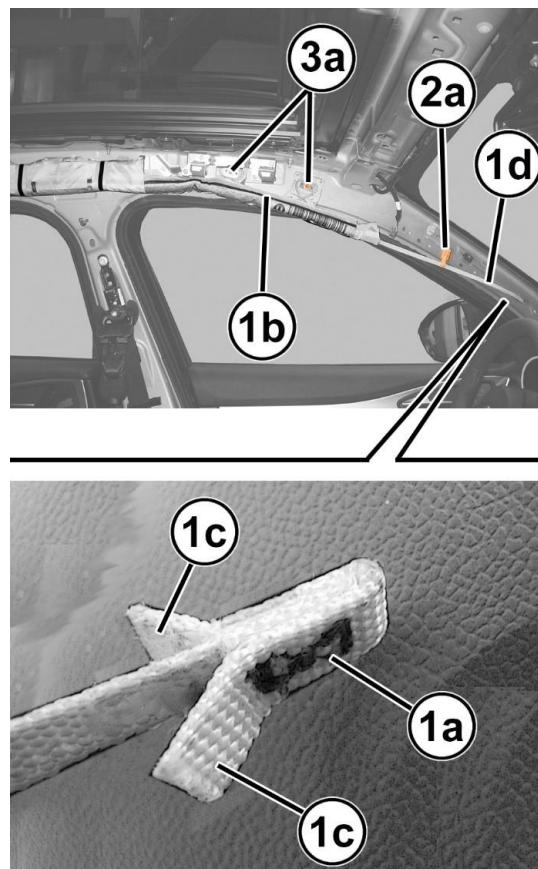

Figure 25 – Side Curtain Air Bag
54. Release the front end (1a) of the tether (1d) of the side curtain air bag module (1b) from the pillar by releasing the tabs (1c) (Figure 25).
55. Release the tether (1d) from the retainer (2a) (Figure 25).
56. Remove the screws (3a) securing the front part of the side curtain air bag module (1b) (Figure 25).